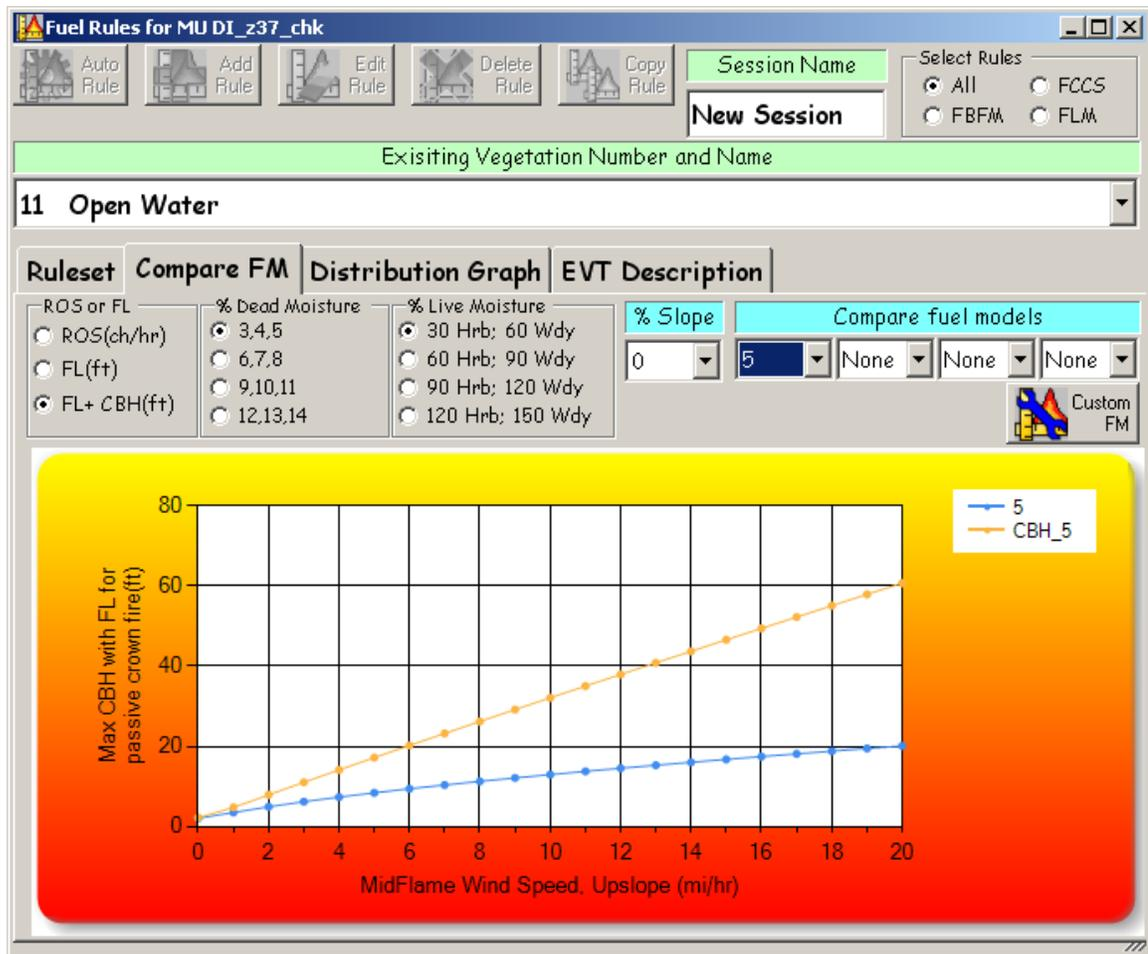

Figure 6-16. Select **Compare FM** page tab.
- Select the **Compare FM** tab on the **Fuel Rules** screen to compare the required canopy base heights (CBH) needed for torching and crowning fire initiation (fig. 6-16). (For additional information refer to section 7.6.5).